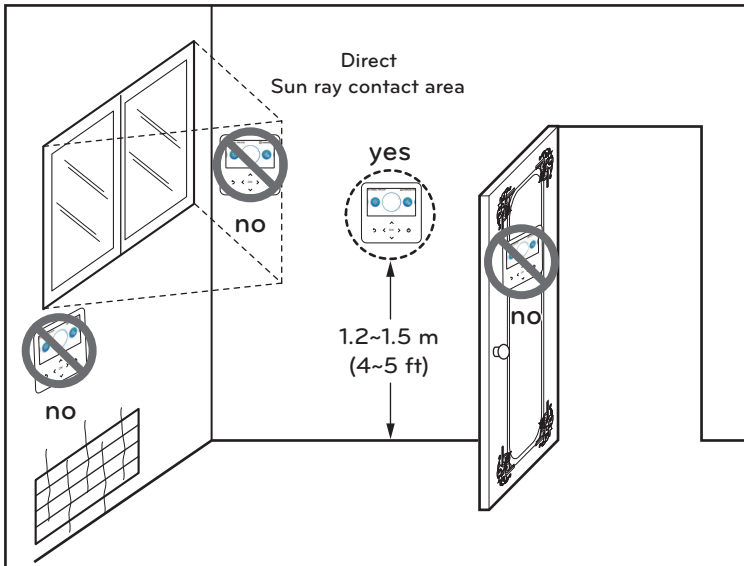

Figure 7 Typical locations for remote controller
- This remote controller is equipped with a seven segment LED display. For proper display of the remote controller LED's, the remote controller should be installed properly as shown in Fig 7. (The standard height is 1.2~1.5 m(4~5 ft) from floor level.)